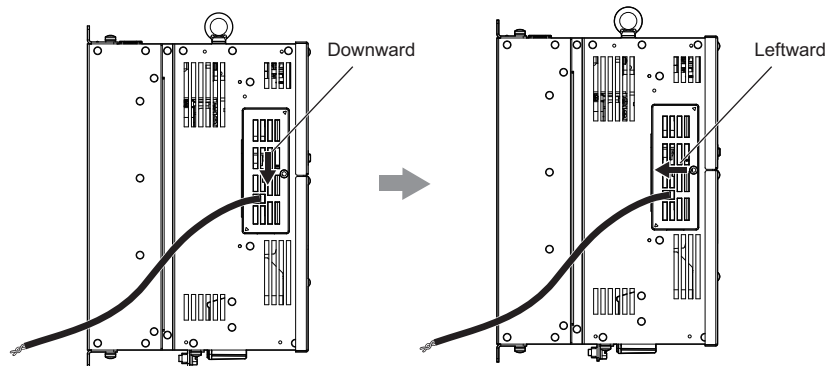

Figure 69 Sliding the CN19 Connector Cover into Place
- Slide the CN19 connector cover back into place as shown in Figure 69.